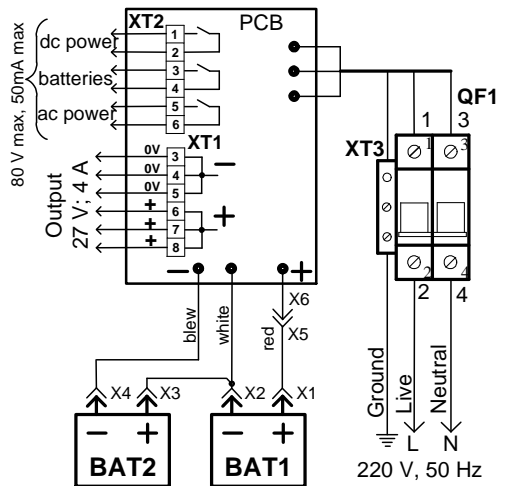

Figure 2
Connecting mains power 220 V to the QF1 circuit breaker, it is necessary to observe proper polarity of connecting the circuits Live and Neutral. Connect the circuits as shown in Figure 2.
d) To provide remote indication of mains power conditions, output power conditions, and battery conditions, connect the outputs of the solid state relays K1, K2, and K3 (see Figure 2) with the relevant alarm loops of the relevant devices.